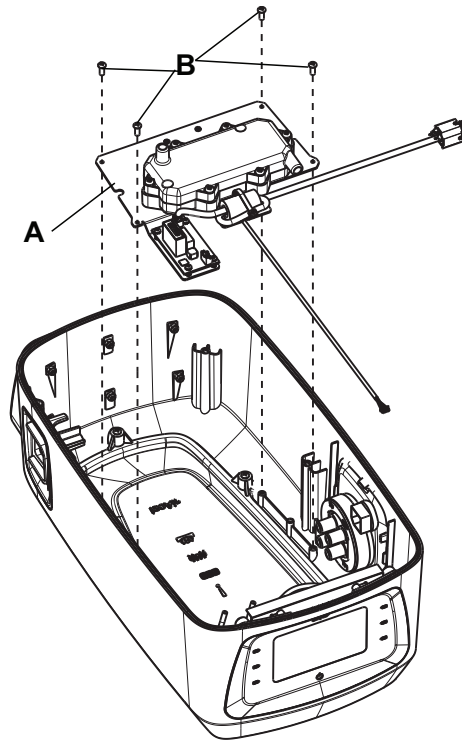

Figure 32 – LED board
2. Using a stubby #1 Phillips screwdriver, remove the four screws (B) that secure the LED board (A) to the status LED assembly with muffler (Figure 32). Save the screws.